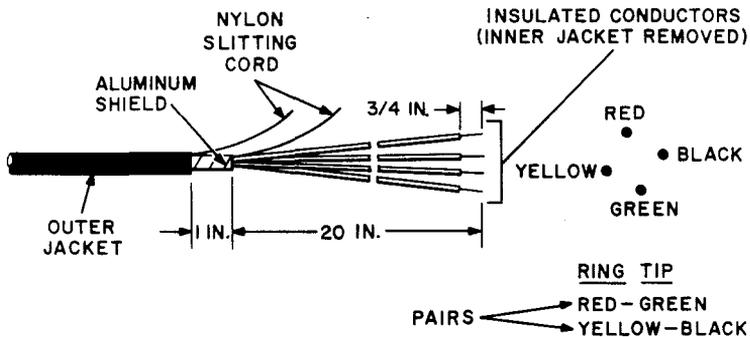

Fig. 26—Preparation of B Service Wire
9.03 Remove all unnecessary slack from the service wire. Mark the sheath of the service wire 1/4 inch below the AT-7796X Connector. Prepare the B Service Wire as illustrated in Fig. 26.